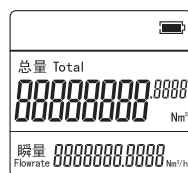

Fig. 8-1
- (4) When the above processes are completed, the Fig. 8-1(see page 15) should appeared on the LCD screen;
- (5) Once the above steps have been performed and no errors are found, it indicates that the meter is working properly. Then power off the meter by disconnecting the DC cable from the DC outlet, and it is ready to be installed onto the pipeline. (For battery powered meter, this step can be skipped)
- (4) Open the valves at both ends of the pipeline until the gas fill the pipeline, then close the valves.
- (5) Supply the meter with a proper DC voltage, and the LCD should read as shown in Fig. 8-1 (page 15);
- (6) Record the accumulated flow rate value (optional).
- (7) Open the valves at both ends of the pipeline, and the meter should then operate as desired.
- (8) Finish the installation.
At the normal operation mode, the meter has the display as shown in Fig 8-1. The Flowrate shows the real time mass flow rate in normal cubic meter per hour ( $\text{Nm}^3/\text{h}$ ); the Total displays the accumulated flow rate in normal cubic meter ( $\text{Nm}^3$ ). The conversion of the real time mass flow to the volume is based on the condition that 1  $\text{Nm}^3/\text{h}$  equals to the mass that is in 1 cubic meter of the air at a temperature of 20°C and a pressure of 101.325 kPa. The display can only be reset by trained personnel at the firmware level.